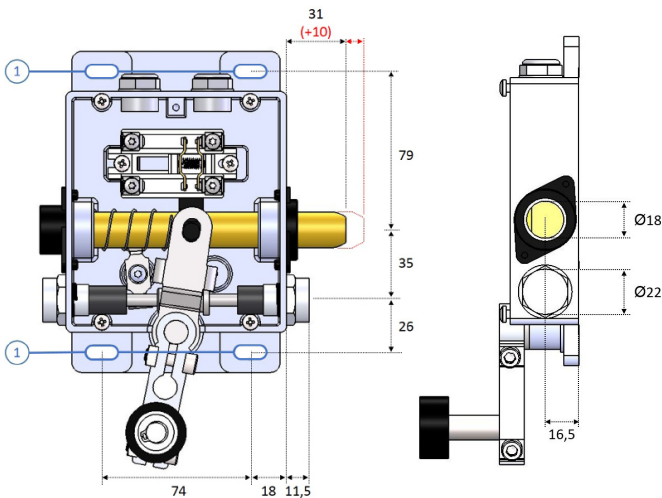

Figure 1 Distance between mounting holes
The LO-30 is a maintenance-free door lock for swing doors. It is supplied with (LO-30S) or without (LO-30) mechanical device for proving the locked and closed condition of the door according to EN81-20 5.3.10. Activation by locking arm. Lock can be ordered with 10mm longer bolt. See Figure 1 for dimensions.
The lock is mounted in the frame with screws in the mounting holes. ① The holes are drilled and threaded according to fig. 1. We recommend that you use one of our adapter plates when replacing a lock with different hole pattern.
The door lock shall be adjusted so that the latching bolt engagement is minimum 7mm + the closed-contact movement (about 2mm) in conformity to EN81-20. The front surface of the magnet cap should align with the outside of the door frame (applies to the LO-30S). The locking engagement is adjusted by moving the lock in the oblong holes ① (see figure 1).